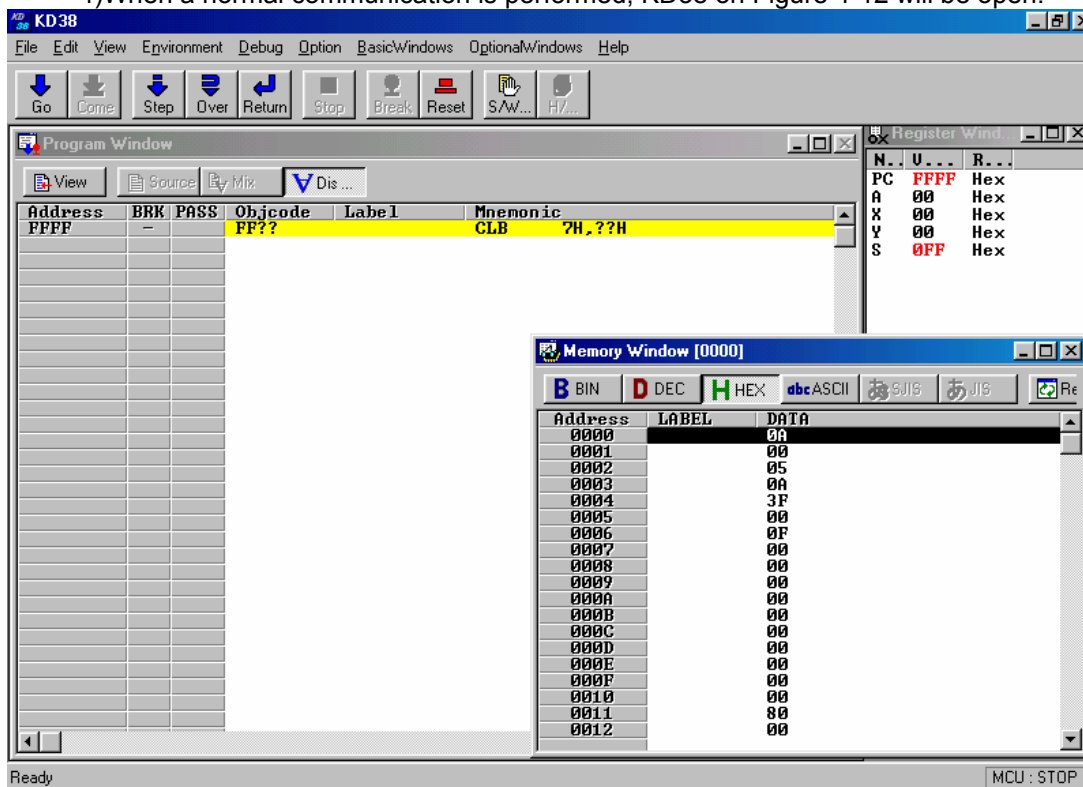

Figure 4-12 Main Screen of KD38
4) When a normal communication is performed, KD38 on Figure 4-12 will be open.